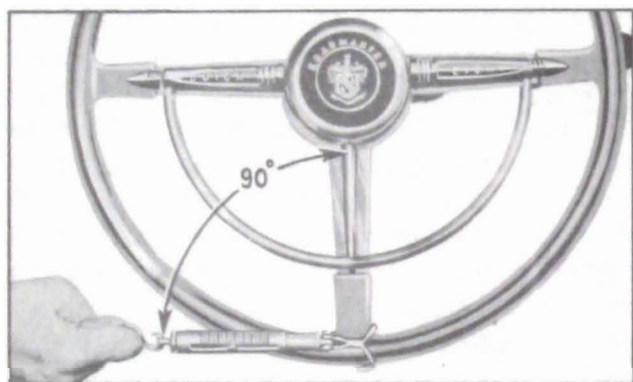

Figure 7-7—Checking Thrust Bearing or Lash Adjustment with Scale
7. When worm thrust bearing adjustment is completed, check load on bearings by applying Scale J 544-A to a spoke at the rim of steering wheel and pulling at 90 degrees to spoke, figure 7-7, with wheel turned to near one extreme position. The pull required to keep wheel turning should be between $\frac{7}{8}$ and $1\frac{1}{8}$ pounds. Re-adjust to within these limits if necessary.